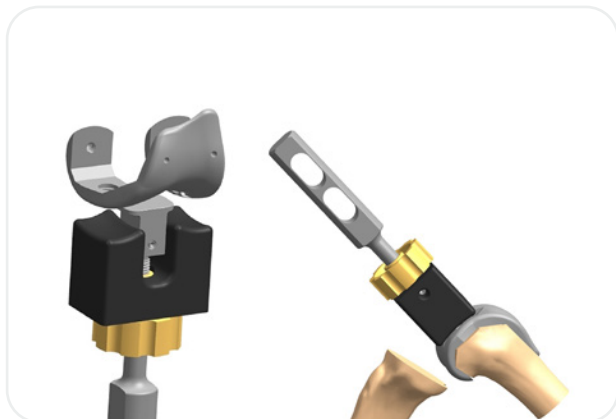

Figure 40
2. Flex the knee to 90° and insert the Femoral Trial using the Femoral Trial Impactor (**Figure 40**).